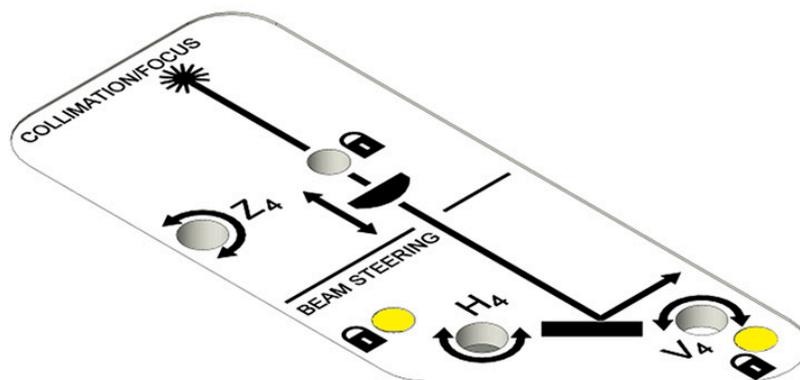

Figure 8-11. Loosen Locks for Beam Adjustment
5. Loosen the locks on the internal beam pointing/steering adjustments for the CellX unit with a 5/64-in hex driver. The locations are highlighted in Figure 8-11: